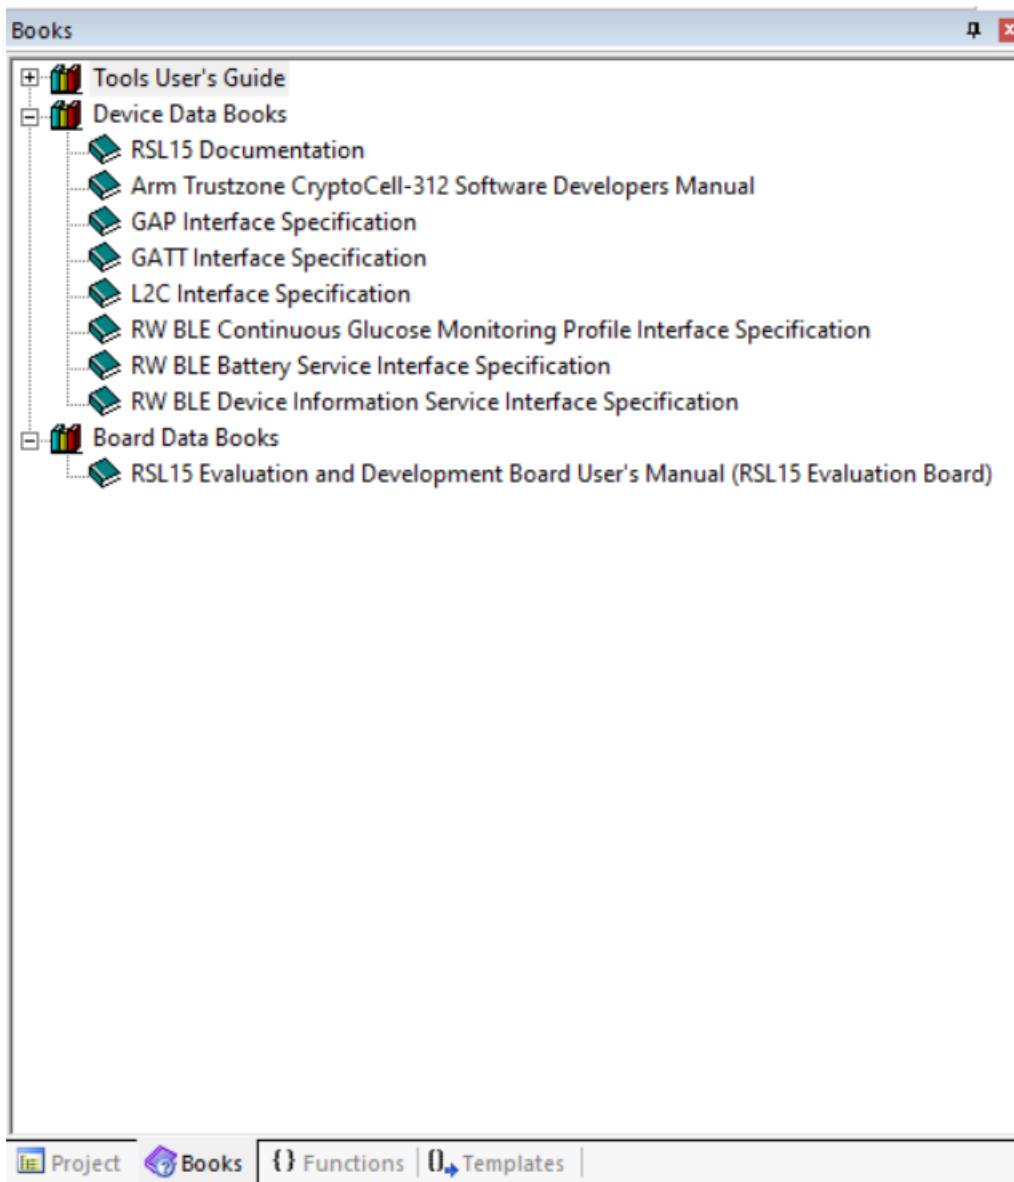

Figure 53. Keil Books Window Showing Documentation
- Documentation can be opened by navigating to **View > Open Books Window**, or to **Help > Open Books Window** (see the "Keil Books Window Showing Documentation" figure (Figure 53)).